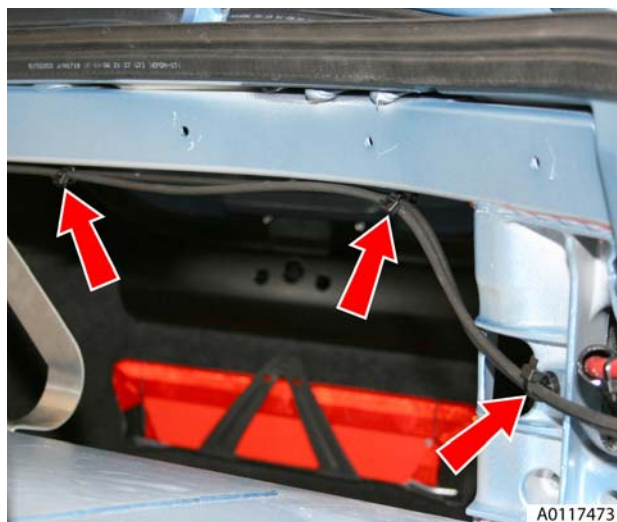

Figure 10
14. Remove harness/pipe retaining clips (x3) LH/RH (see Figure 10).